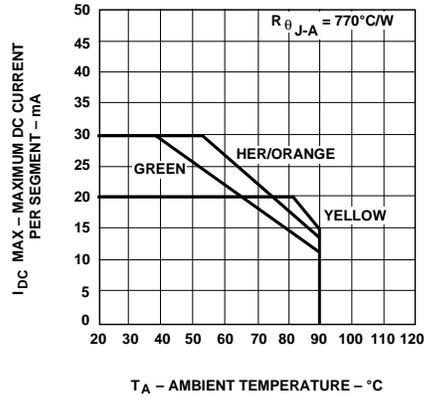

Figure 10. Maximum Allowable DC Current vs. Ambient Temperature.
- Derate above 53°C at 0.45 mA/°C (see figure 10).
- Derate above 81°C at 0.52 mA/°C (see figure 10).
- Derate above 39°C at 0.37 mA/°C (see figure 10).